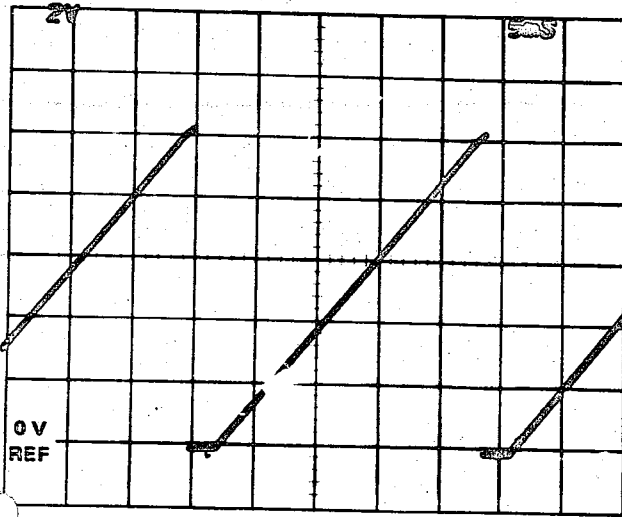

Fig. 6-10. Probe to Pin 8 of U280.
17. Change the test oscilloscope Amplifier to 2 V/Div and the Time Base to 5 ms/Div. Set the 0 V reference point 1 cm above the lowest graticule line of the test oscilloscope. Connect the probe to Pin 8 of U280 on the Horizontal board. Trigger the test oscilloscope for a waveform similar to that shown in Fig. 6-10.